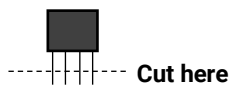

Fig.9. Schematics showing how to trim the CNY70 legs.
2. Take the CNY70 sensor and trim the 4 legs (only a few mm are needed) to reduce the overall size (**Fig. 9**).